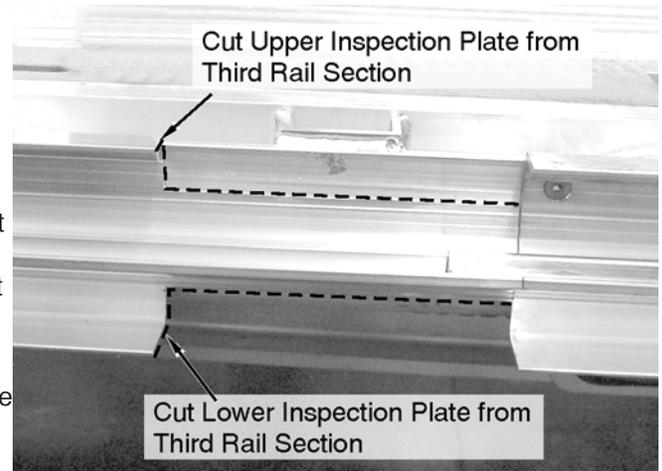

Figure 15
Notice: See **Figure 15**. Before preparing and installing the third rail* from the front, inspection access plates must be cut out. It is very important that this is done, as the inspection plates are required for additional installation steps and for access to the front cars in case inspection or replacement is needed. (*Depending on the length of the trailer).
22) See Figure 15. To create the upper inspection plate, use a band saw to cut out a 12" x 2 1/2" section from the top front of the rail. To create the lower inspection plate, cut another 12" section up to the seal groove on the front of the rail. Retain the inspection plates cut from the rail and install the third section(s) of rail described in Step 10 - 15.